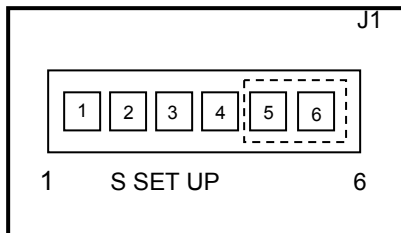

Figure 11
10. Position the jumper on pins **5** and **6** of the **J1 (S SET UP)** header. (Refer to *Figure 11*).